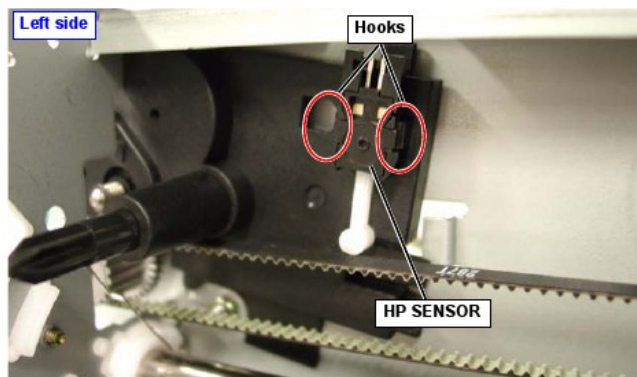

Figure 4-44. HP SENSOR Removal 2
4. Release and remove 2 hooks securing the HP SENSOR to the HOUSING ASSY, RD. (Refer to Figure 4-44.)